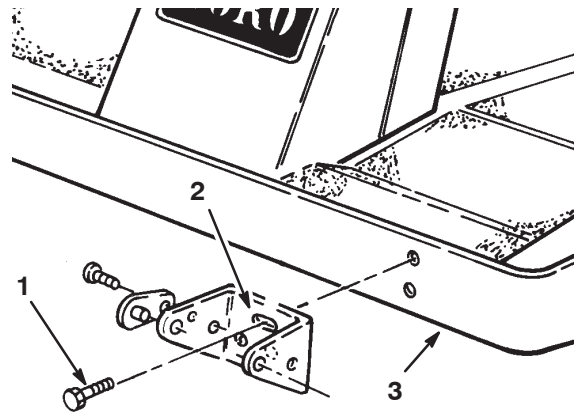

Figure 10
- To install the mounting brackets, insert 2 flange head capscrews (3/8 x 1 in.) through the slotted bracket holes. Thread the screws into the captivated frame nuts and torque them to 45–50 ft.-lb. (61–68 N·m) (Fig. 10).